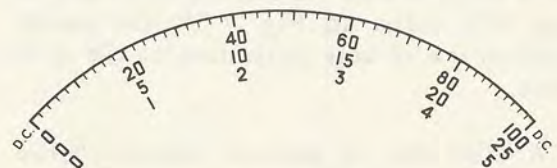

Fig. 7-4
**D-C Meter Scales.** Figure 7-4 shows the scale used when measuring direct current or voltage. Other multimeters used by radio-men have similar scales. As you know from your study of Theory Lesson 5, direct current flows only in one direction. A source of such current is the battery. The d-c scales on your meter are used for measuring either current or voltage. If you examine Fig. 7-4, you will see that the mark-